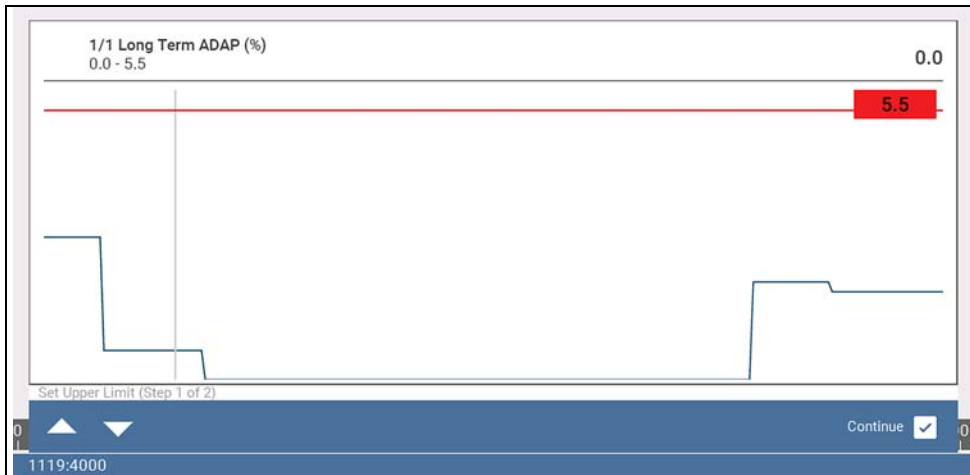

Figure 4-29
A graph of the highlighted PID and setup icons display (*Figure 4-29*).
The upper trigger point must be set first. A red horizontal line is displayed across the data graph (*Figure 4-29*) representing the upper trigger point.
4. Use the lower toolbar arrow icons (*Figure 4-29*), or the up ▲ and down ▼ arrow buttons to change the position of the upper trigger point.